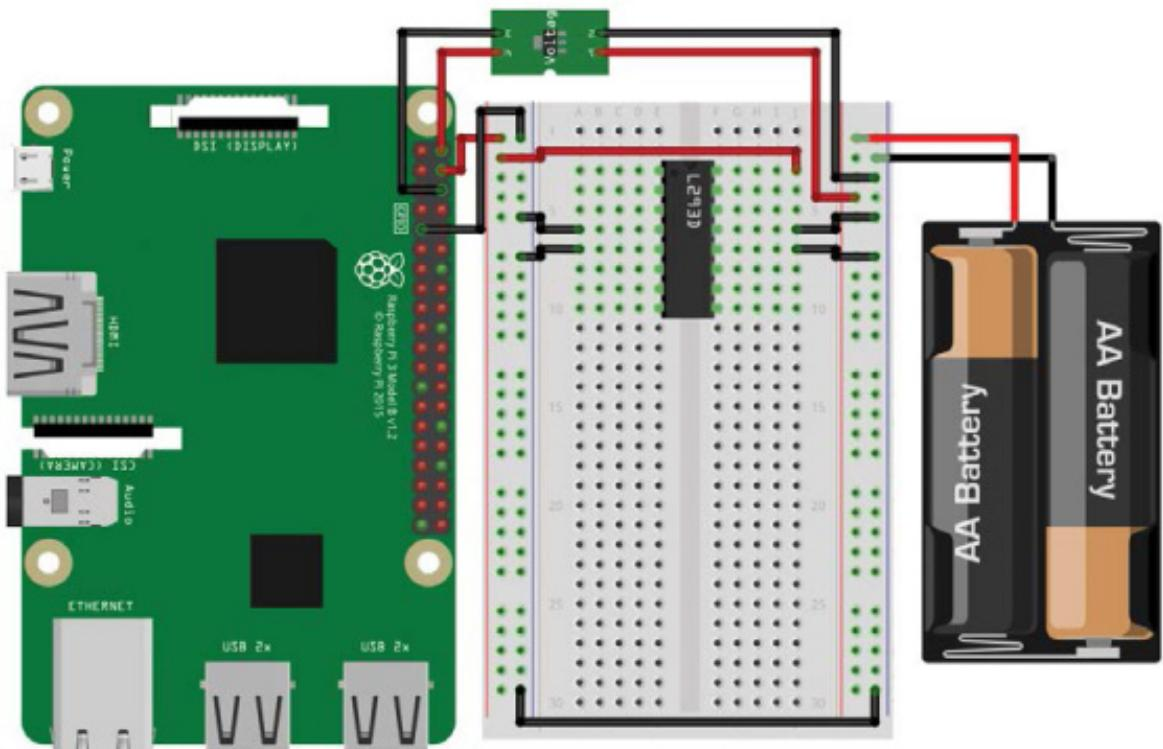

FIGURE 3-25 5 V power connected to the L293D and all four grounds wired
5. Next use a wire to connect pin 16 (VCC 1) of your L293D to the 5 V positive power rail (the one connected to your Pi’s 5 V pin). This is the chip’s power supply. Once you have done this, connect the ground pins (GND) found on pins 4, 5, 12, and 13 of your L293D to the common ground. See the breadboard diagram in Figure 3-25 for guidance.